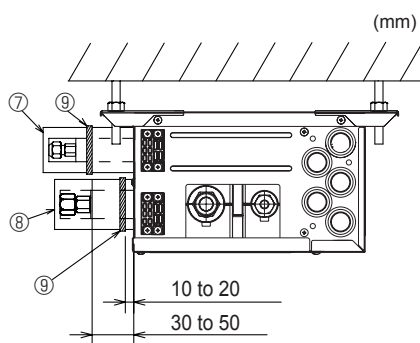

Fig. 7-4
- ⑦ Band ⑨
- ⑧ Pipe covers ③④⑤⑥
- ⑨ Tighten
- ⑩ Refrigerant piping
- ⑪ Thermal insulation for refrigerant piping
► Use the following procedures for indoor connection part which indoor unit is not connected. (Fig. 7-4)
- (1) In order to prevent refrigerant leaks, make sure that the flare nuts are tightened according to the specified torques* in Table 3.
- (2) In order to prevent condensation, install the pipe covers ⑦ ⑧ against the unit and fasten them with the supplied bands ⑨.